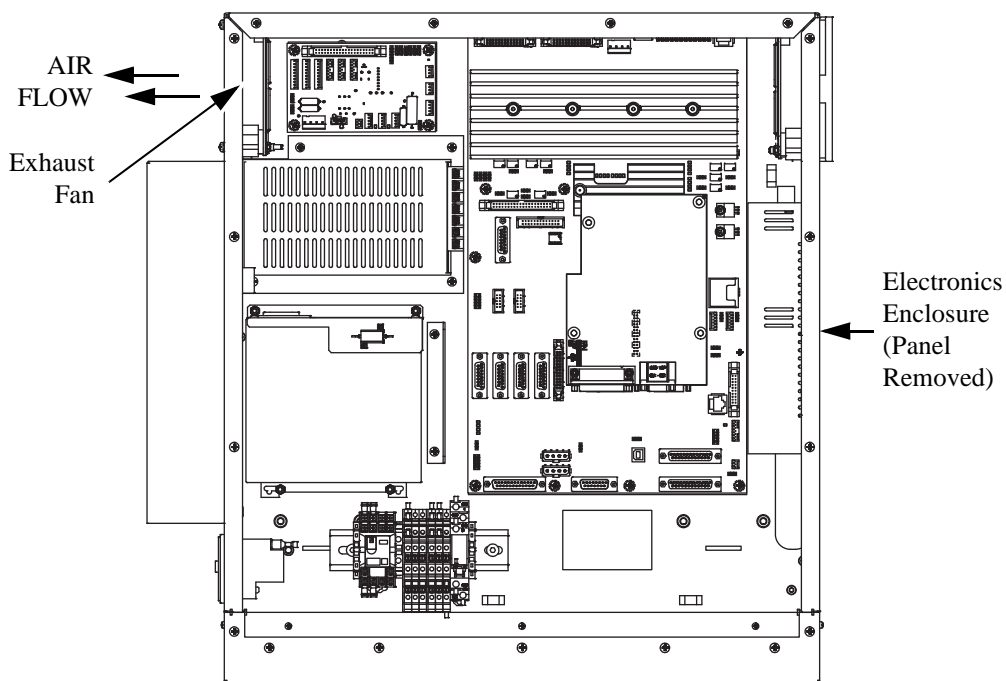

Figure 9-38 Location of the Exhaust Fan
9. Re-connect the power cord, power up the system, and verify that the airflow is in the direction indicated by the arrows in Figure 9-38.